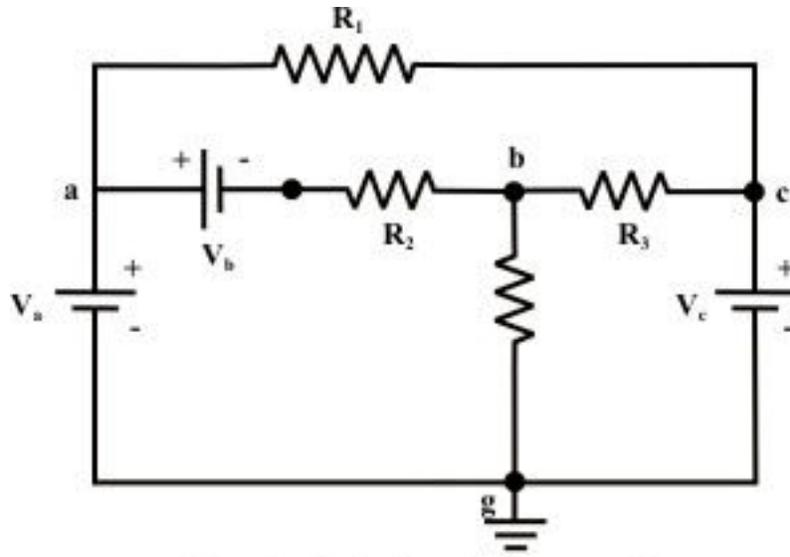

Fig 4: A sample Resistive circuit
- Node- A node in an electric circuit is a point where two or more components are connected together. This point is usually marked with dark circle or dot. The circuit in Fig 4 has nodes a, b, c, and g. Generally, a point, or a node in a circuit specifies a certain voltage level with respect to a reference point or node.